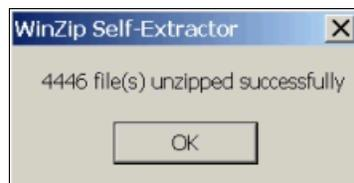

Figure A-12 Extraction finished
- e. Click the **Unzip** button. In the dialog box's lower pane, confirmation messages are displayed as files are decompressed. See Figure A-12.